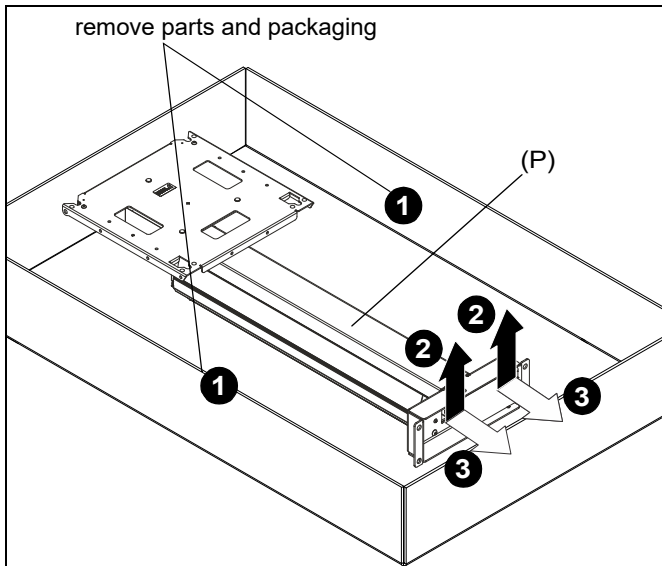

Figure 1
1. Remove all boxes and smaller parts. Leave foam packaging and other cardboard pieces inside to provide stability while performing Steps 2-4. (See Figure 1)
2. Lift column assembly (P) up by lifting at the bottom of the assembly. (See Figure 1)
3. Carefully set column assembly (P) base on the edge of box. (See Figure 1)